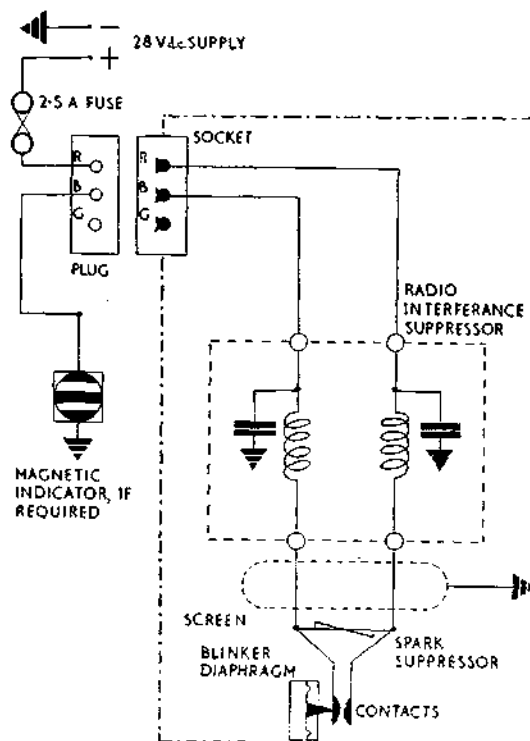

Fig. 1. Circuit diagram
3. The actuator also controls the gap across the contacts which operate in the remote blinker electrical circuit. A magnetic indicator (Ref. No. 5CZ/5003) is used in this circuit, a diagram of which is shown in fig. 1.